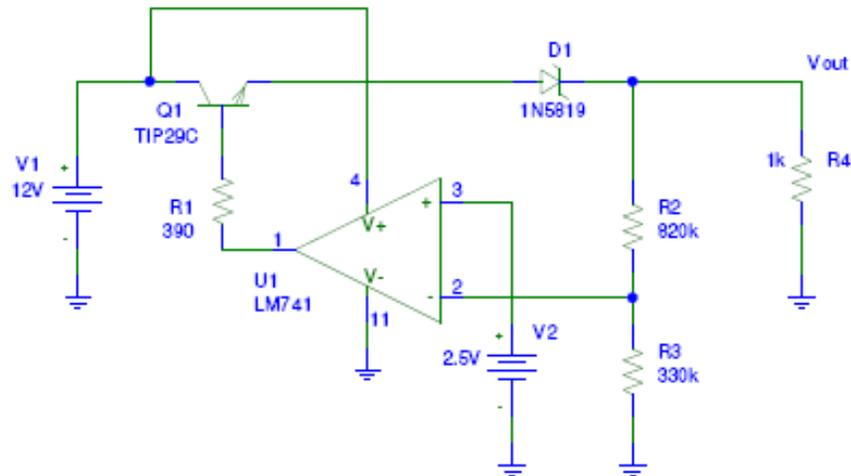

Figure 3: Challenge problem circuit
- Simulate the circuit in Figure 3 using PSPICE and the models that you have downloaded. Run the simulation with various values for R4. (**Hint:** You will need to use a sub-circuit). What is the maximum current through R4 before the circuit fails to operate properly? Once you have a feel for the output of the circuit, describe in detail how the circuit operates to create this output.